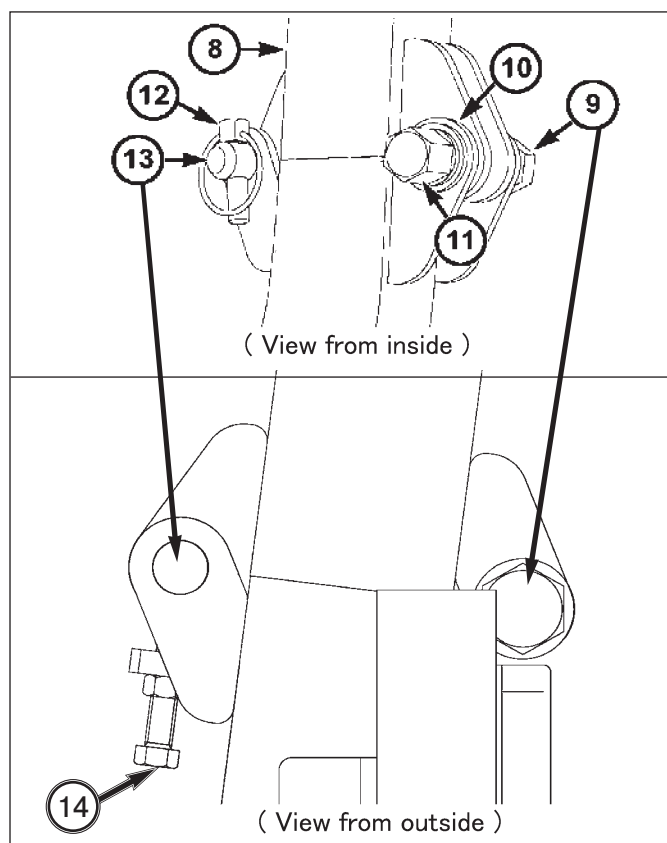

FIG. 53-2
FIG. 53-2: Position the upper frame (8) on top of lower ROPS frame. Install shoulder bolts (9) at the rear of the frame with washers (10) and nuts (11) to the inside. Install clevis pins (12) and lynch pins (13) at the front of the frame, with lynch pins to the inside.